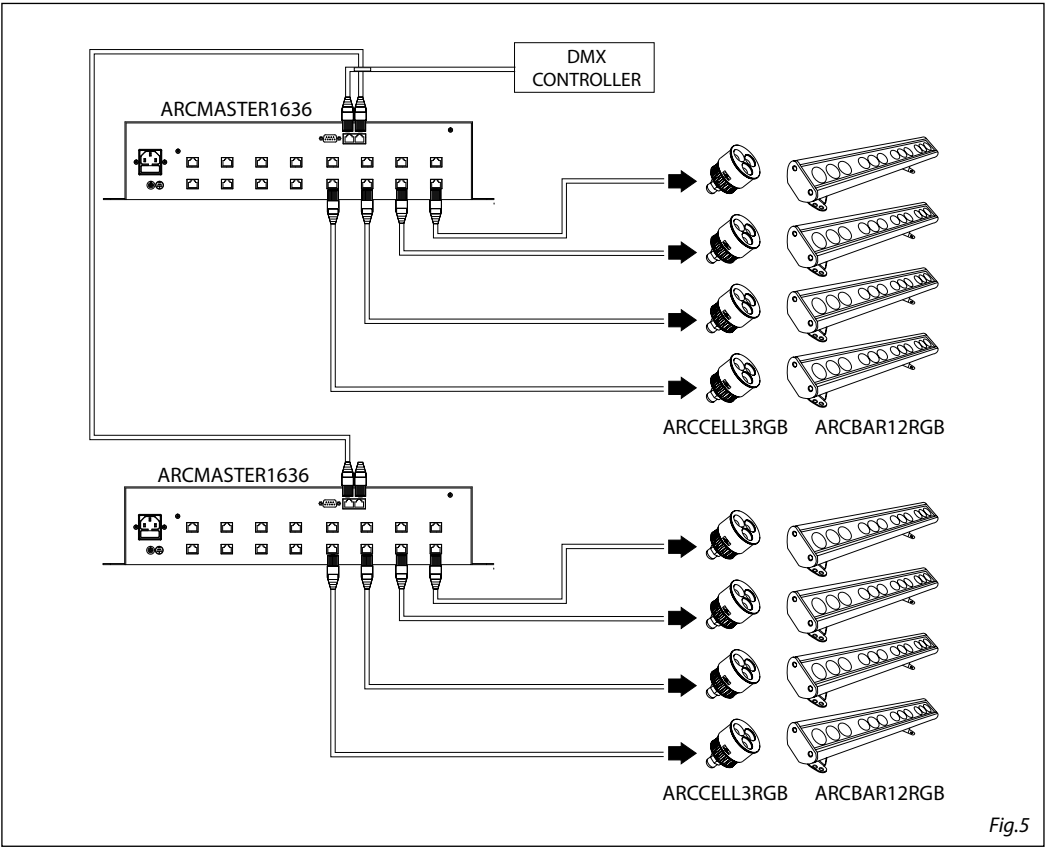

Fig.5
- Connect the DMX output of the second unit with the input of the DMX next drive until all units are connected to form a chain (fig.5).